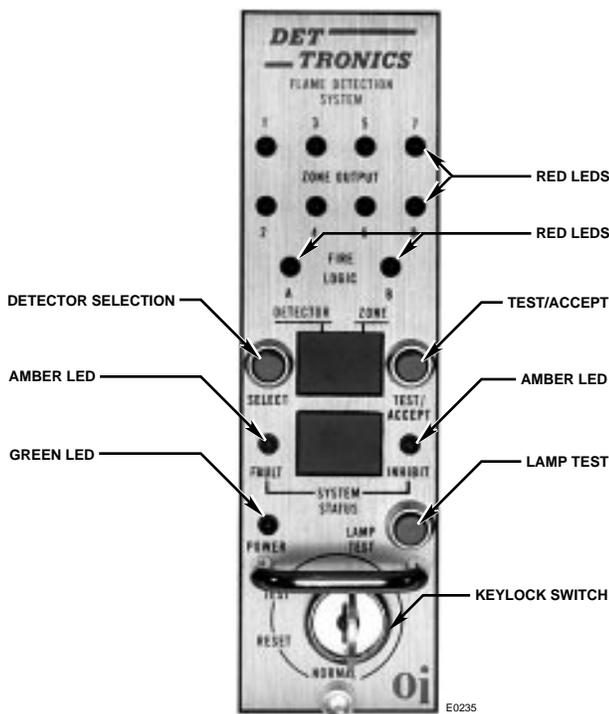

Figure 2—Front Panel of R7404
The R7404 is designed for use with 24 volt dc power supplies, but will operate from any direct current supply between 10 and 38 volts. The unit will tolerate transients such as those that can occur when fully discharged batteries are placed on charge. When power is present at the R7404 Controller, it is indicated by a continuously energized green LED. All other lights and displays on the R7404 panel are normally off, but may be periodically checked for operation by pressing the LAMP TEST button located directly opposite the POWER light as illustrated in Figure 2. It is not necessary for the controller to be in the TEST mode when this check is performed.
The reset function is incorporated in a rotary keylock switch, which has three positions: (1) NORMAL, (2) RESET and (3) TEST. The switch sequence is such that a return to NORMAL from the TEST position can be achieved only by passing through the RESET mode (Figure 2). The reset function may also be performed by an optional external reset switch. Whenever the keylock switch is placed in the RESET or TEST position, the FAULT and INHIBIT LEDs will turn on, and all Zone, Fire Logic, and Alarm outputs will be disabled.